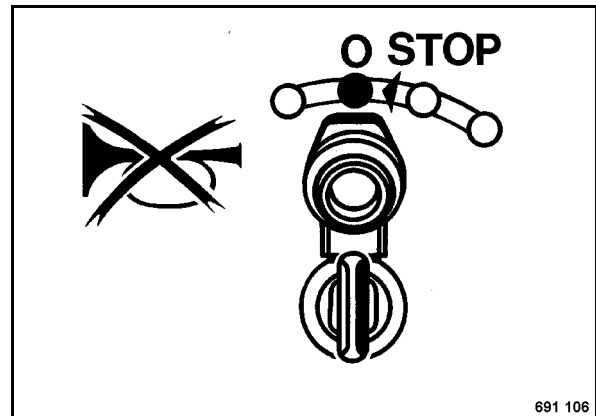

Fig. 34
- Turn the ignition key (Fig. 34) to position "0" and pull it out.